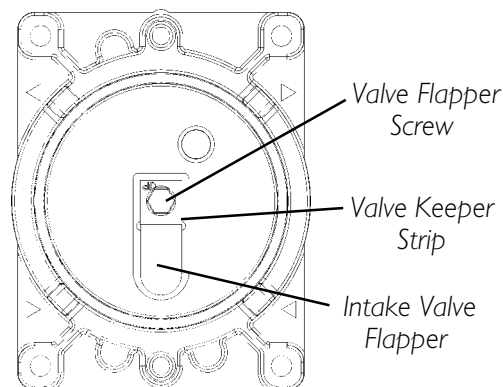

FIGURE 9 - INSTALL O-RING, INTAKE VALVE FLAPPER AND VALVE KEEPER STRIP
1. Install the NEW valve keeper strip on top of the NEW intake valve flapper so that the word "UP" is visible. Fasten with the valve flapper screw. Refer to FIGURE 9.